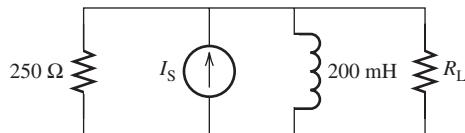

FIGURE P6.46 Circuit for Problem 6.46.
- 6.46** (B)* Determine the Norton equivalent current and equivalent impedance observed by R_L for the circuit in Figure P6.46 with the current source, $4 \cos(200t + 30^\circ)$.